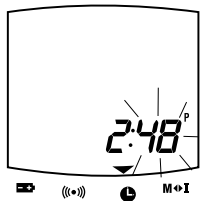

Figure 12
5. The minutes start to flash (figure 12). Press the left or right buttons to adjust. Press both buttons to accept and return to Standby Mode. If there is no button activity for 30 seconds, the gauge will automatically return to Standby Mode.